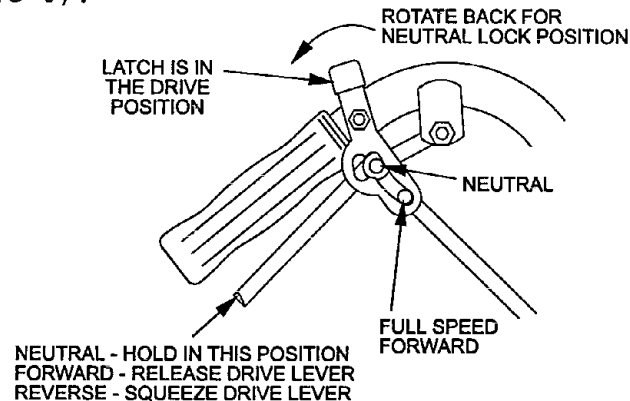

FIG. 6
- 4.1.3 Drive Levers: Located on each side of the upper handle assembly directly below the handle grips (See Figure 6). These levers individually control the speed and direction of each drive wheel. When the speed control lever is moved out of the neutral position and the neutral lock latches are moved into the drive position, as shown in Figure 6, and the drive levers are released, the drive wheels are engaged in the forward direction.
- 4.1.4 **Neutral Lock Latch:** Located directly above the drive levers. These latches allow the operator to lock the drive levers in a "neutral" position where neither of the drive wheels are engaged in either a forward or reverse direction (See Figure 6).
(Do Not squeeze the drive levers all the way back as this will cause the drive wheels to go into full reverse direction) Place thumbs on the upper portion of the neutral lock latches and move them to the rear. Release drive levers (See Figure 6).